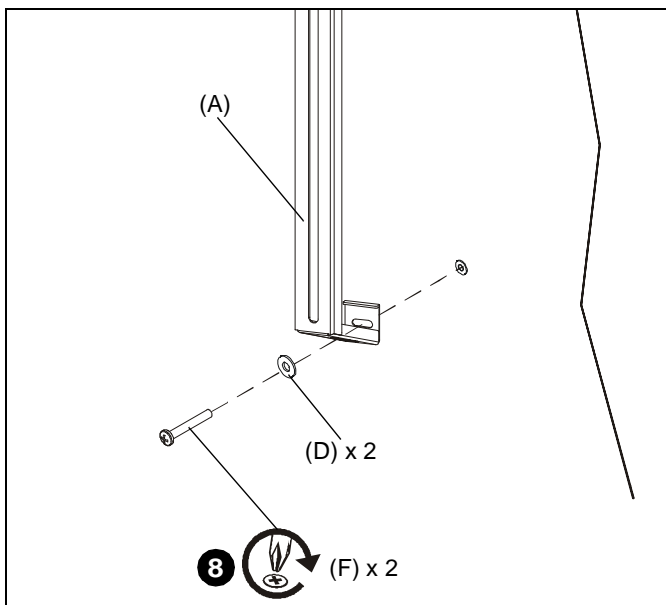

Figure 9
8. Use two 1/4-20 x 1 3/4" Phillips pan machine screws (F) and two 1/4" flat washers (D) to attach both fixed wall legs (A) to anchors in wall. (See Figure 9)